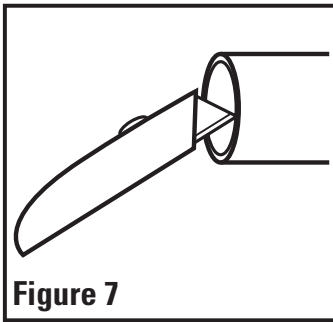

Figure 7
4. Remove rough edges with a utility knife or coarse sand paper (**Figure 7**).
3. Remove rough edges with a utility knife or coarse sand paper (**Figure 7**).